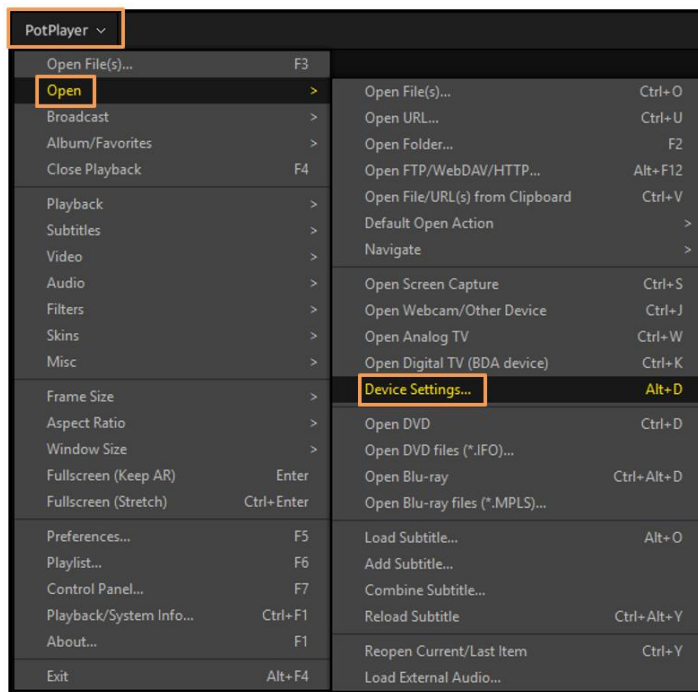

Figure 7.9. Device Settings in PotPlayer 3
2. To configure output resolution, either press the shortcut Alt+D or click **PotPlayer > Open > Device Settings...**, as shown in Figure 7.9.